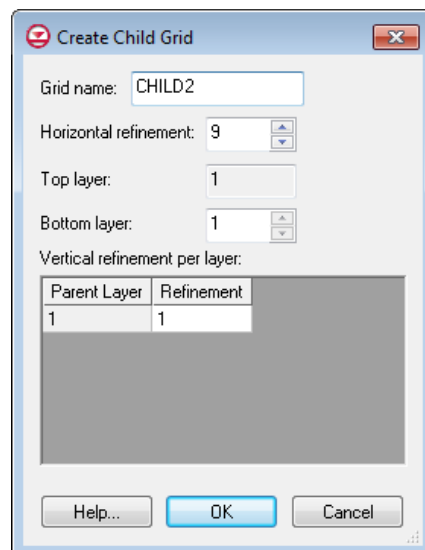

Figure 3 Create Child Grid dialog
3. Right-click in the selected area and select **Create Child Grid...** to bring up the *Create Child Grid* dialog (Figure 3).